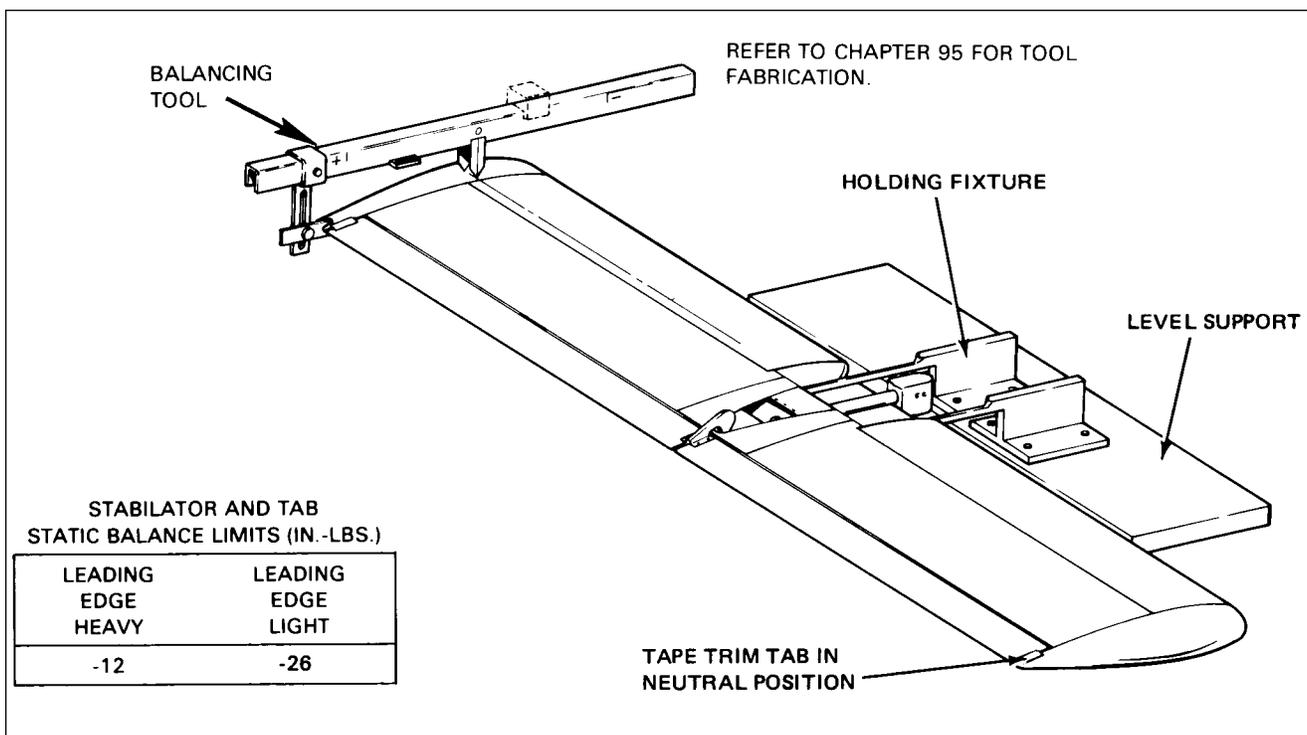

Figure 55-2. Stabilator Balance Configuration
The balancing must be done using a suitable tool capable of measuring unbalance in inch-pounds from the center line of the control surface hinge line. A suggested tool configuration is shown in Chapter 95. Other tool configurations may be used, provided accuracy is maintained and recalibration capability is provided. The tool shown may be calibrated by placing it on the control surface to be balanced with the balance points over the control surface hinge center line and balance bar parallel to the chord line. Position the trailing edge support on the tool to align the tool with the control surface chord line and secure it in this position. Remove the tool without disturbing the trailing edge support and balance the tool by adding weight to the light end as required. (The movable weight must be at the center line.) Place the tool on the control surface perpendicular to the hinge center line as shown in Figure 55-2. Read the scale when the bubble level has been centered by adjustment of the movable weight.
**BALANCING STABILATOR.** (Refer to Figure 55-2.)